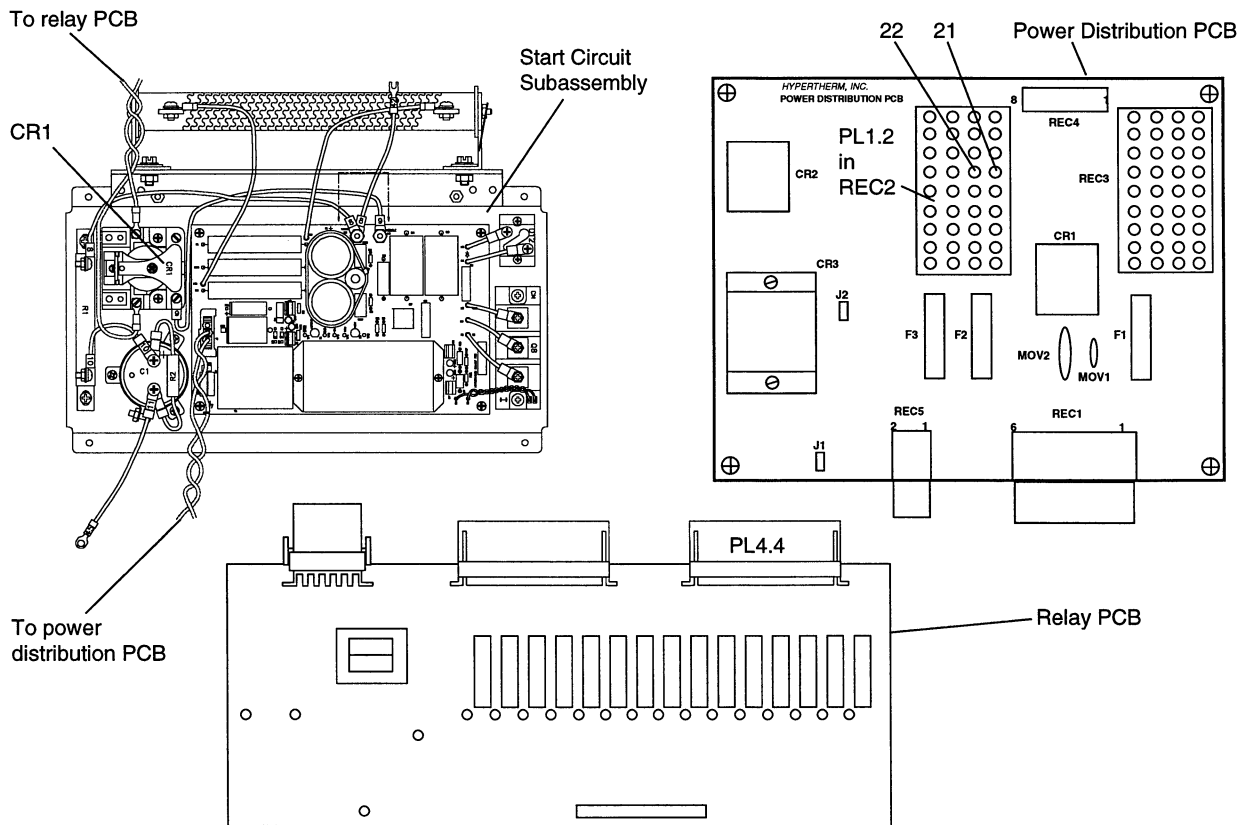

Figure 8 Attaching Loose Wires from Start Circuit Subassembly to HT4001 Power Supply 2 of 2
- 3.1. Find wires going to pins 21 and 22 in PL1.2 of power distribution PCB. PL1.2 is plugged into REC2 on the power distribution PCB - see Fig. 8.